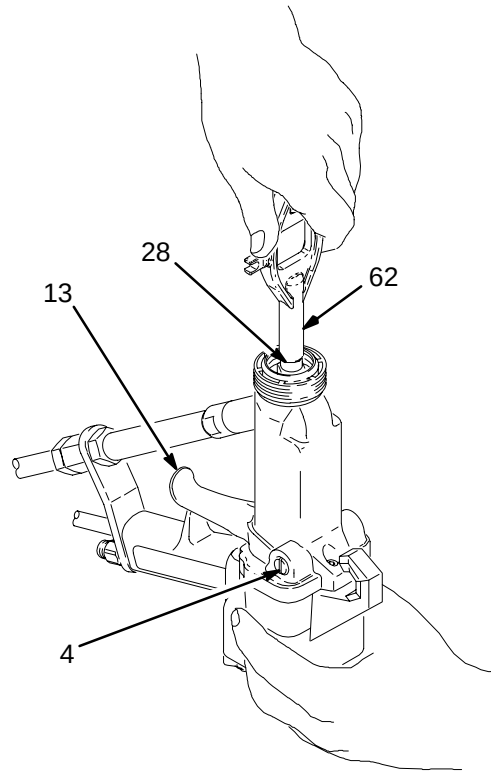
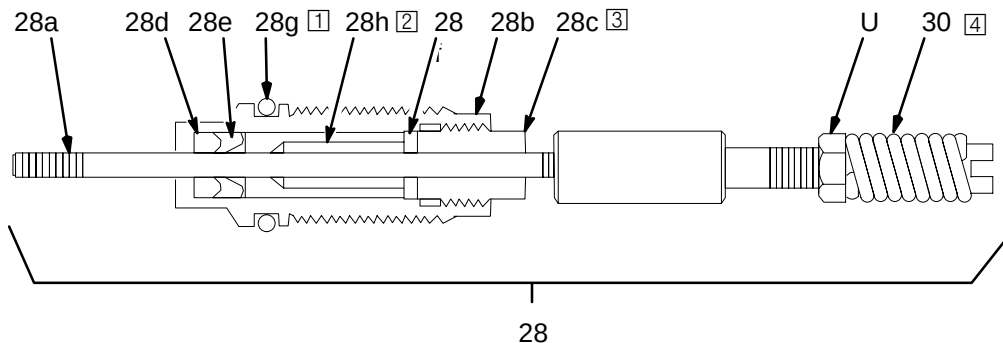

Fig. 19
Fig. 20
3. Loosen the trigger screws (4) far enough to remove the trigger (13). See Fig. 19.
6. If the parts are purchased separately, assemble them as instructed in steps 7 to 16 and as shown in Fig. 20, on page 34.
8. Fill the entire inner cavity of the spacer (28h) with the dielectric grease included with the gun. Place the spacer on the fluid rod (28a), in the direction shown in Fig. 20. Generously apply the grease to the outside of the spacer.
9. Place the fluid packing (28e), needle packing (28d), and housing (28b) on the fluid rod (28a), as shown in Fig. 20.
10. Lightly tighten the packing nut (28c) with the multi-tool (62). The packing nut is properly tightened when there is 2 lbs. (9 N) of drag force when sliding the packing housing (28b) assembly along the shaft. Tighten or loosen the packing nut as needed.
12. Make sure the spring (30) is installed against the nut (U) as shown in Fig. 20.
13. Install the fluid packing rod assembly (28) into the gun barrel. Using the multi-tool (62), tighten the assembly until just snug.
14. Install the trigger (13) and tighten the trigger screws (4). See Fig. 19.
- 4 The spring (30) is not included with the fluid packing rod assembly (28)